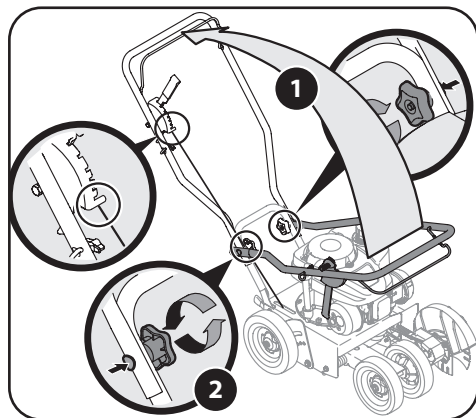

Figure 1
1. Pivot the upper handle upward until it snaps into place. See 1 in Figure 1.